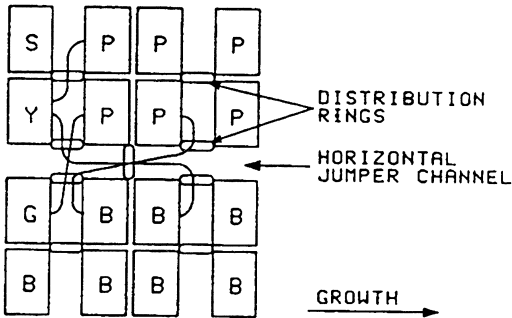

Figure 5
- figure 5 — satellite cross-connect terminal.